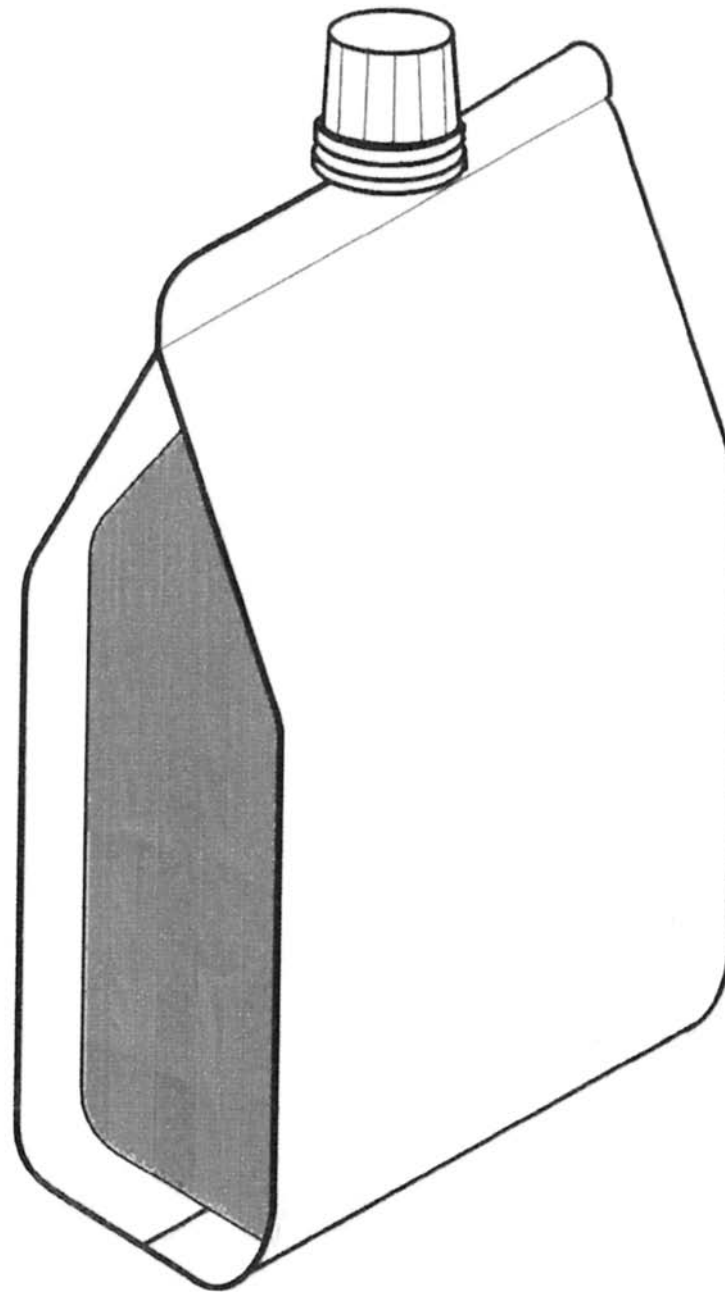

Figure 5
- 4 Combine your best ideas from Question 3 and produce a colour presentation drawing (**Figure 5**) of the drink container using the specification provided and your additional points. (17 marks)